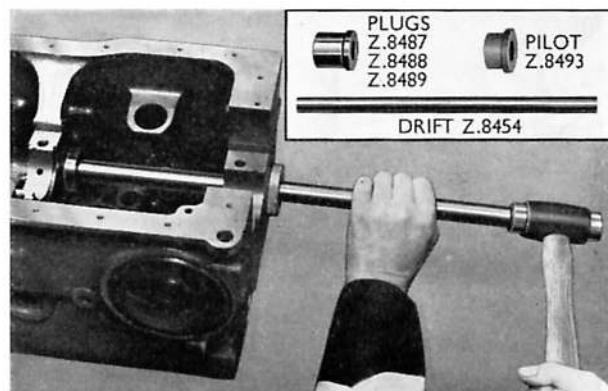

Fig. A.53. Renewing the camshaft bearings
1. Using the appropriate drift plug drive out the front (No. 1) bearing. Insert the drift pilot in the front bearing housing and using the appropriate drift plug drive out the centre bearing (Fig. A.53). Remove the rear bearing in a similar manner, noting that the expansion plug will be driven out with the bearing.